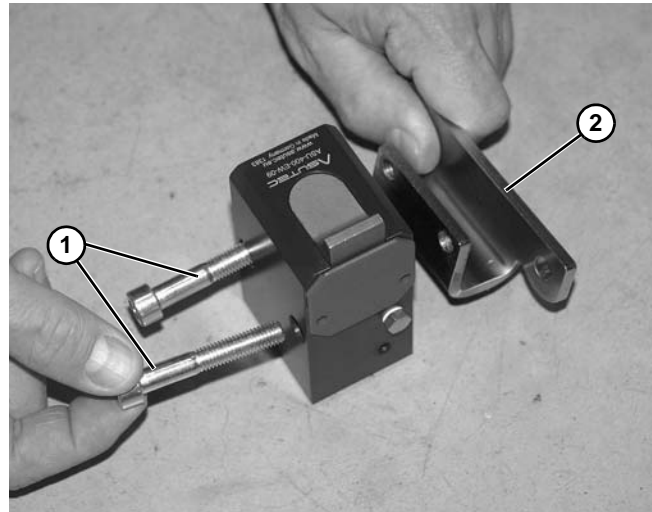

Figure 7
1. Remove two screws (**Figure 7, item 1**) and remove bracket (**Figure 7, item 2**).